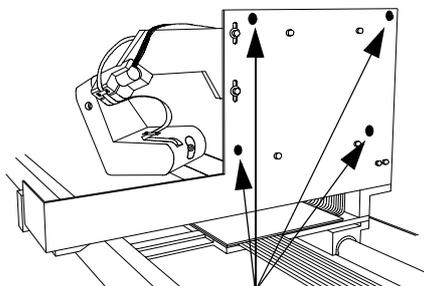

Figure 6-139 Casing fixing screws
- 5 Remove casing (see Figure 6-139, 'Casing fixing screws').
- 1 Remove casing (13-15) (see Figure 6-139, 'Casing fixing screws').